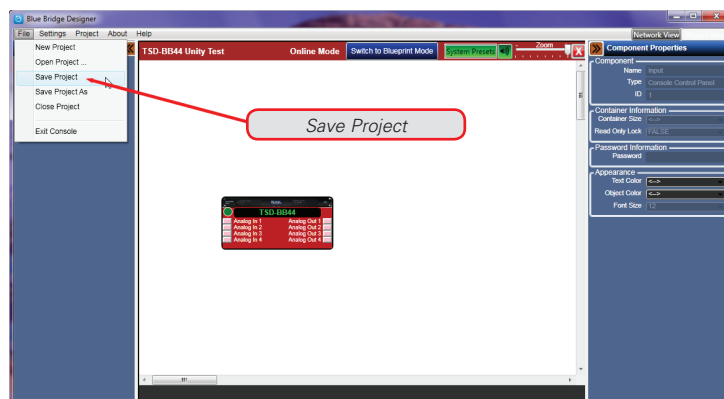

Figure 25
- After any adjustments are made, the project file should be saved as shown in Figure 25.